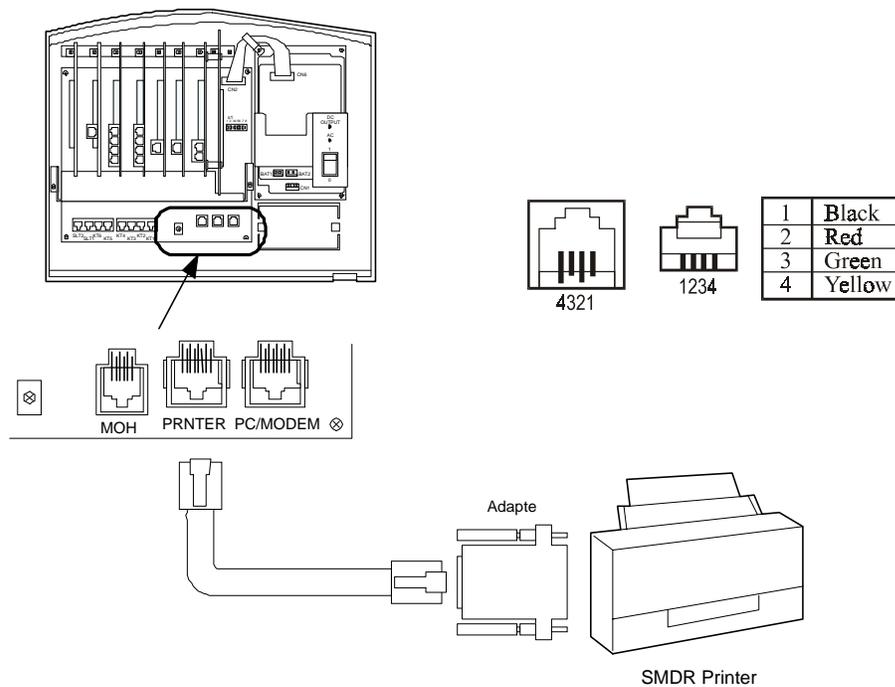

FIGURE 50. STATION MESSAGE DETAIL RECORDER(SMDR)CONNECTION)
1. Plug the attached serial cable into the connector labeled PRINTER on the motherboard (VS-MAIN) card as illustrated Figure 50.